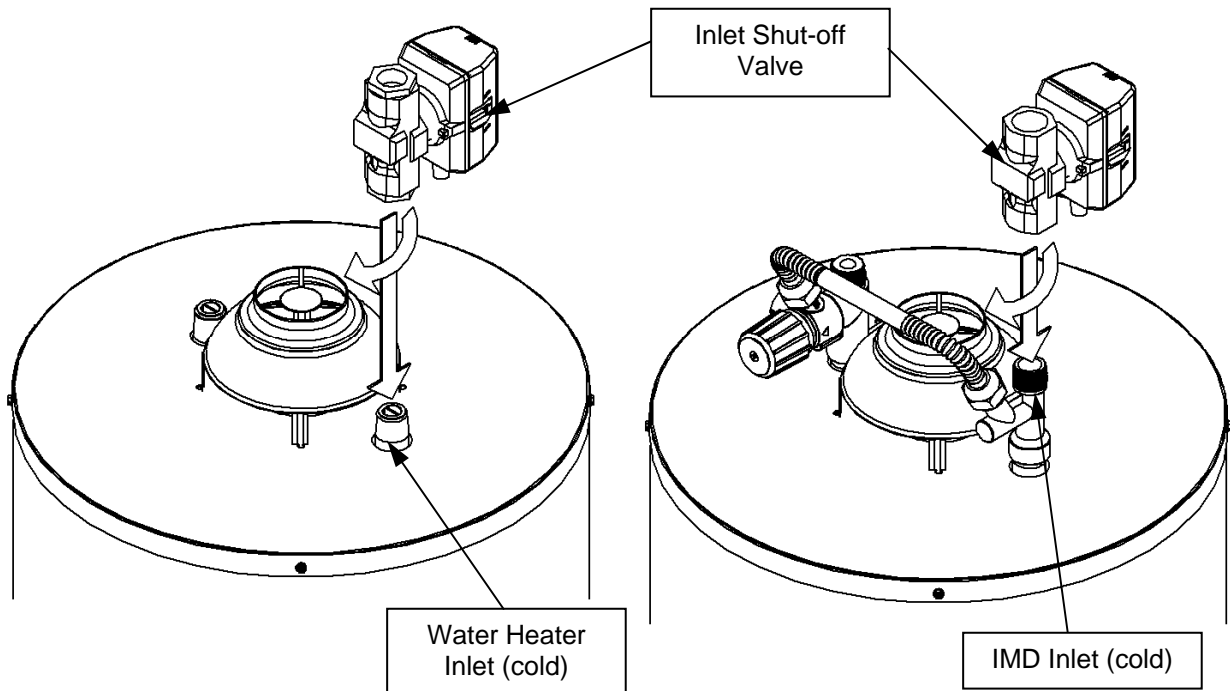

Figure 73
Step 6: Thread the Inlet Shut-off Valve onto the water heater inlet (cold). Or, if an integrated mixing device is used, thread the Inlet Shut-off Valve onto the IMD inlet. This is shown in Figure 73.